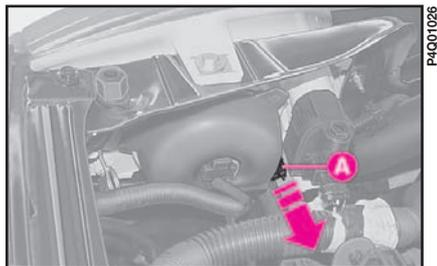

fig. 15
- 1) take out the bulb holder **A**-fig. 15, turning slightly to release;